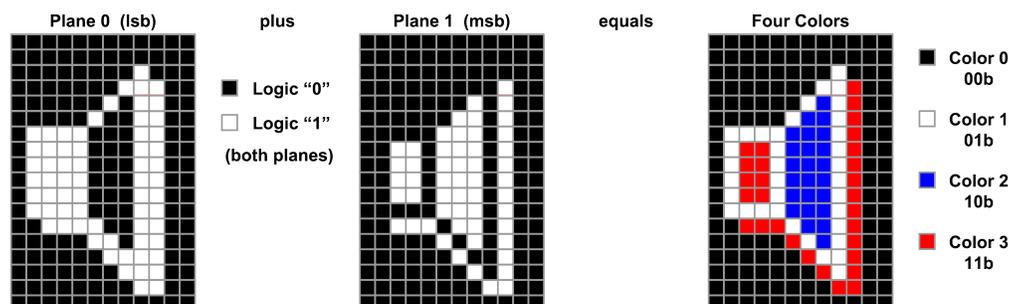

Figure 18. Four-Color Character
2. Four-color: There are a total of 128 four-color characters, in two banks of 64 (banks 3 and 7). Each pixel of the four-color character is defined by two bits of information, and thus can define four different colors, Color 0, Color 1, Color 2 and Color 3. Color 0 is defined as the “background” color. All other colors are considered “foreground” colors, although for most purposes, any of the four colors may be used in any way. Because each four-color character has two bits, the LM1247 internally has a matrix of two planes of ROM as shown in Figure 18. In that figure, dark pixels indicate a logic “1” and light pixels which indicate a logic “0”. The left side shows plane 0 which is the least significant bit and the middle figure shows plane 1 which is the most significant bit. The right side composite character formed when each pixel is represented by its two bits formed from the two planes. The color palette used in this example is “00” for white, “01” for black, “10” for blue and “11” for red.